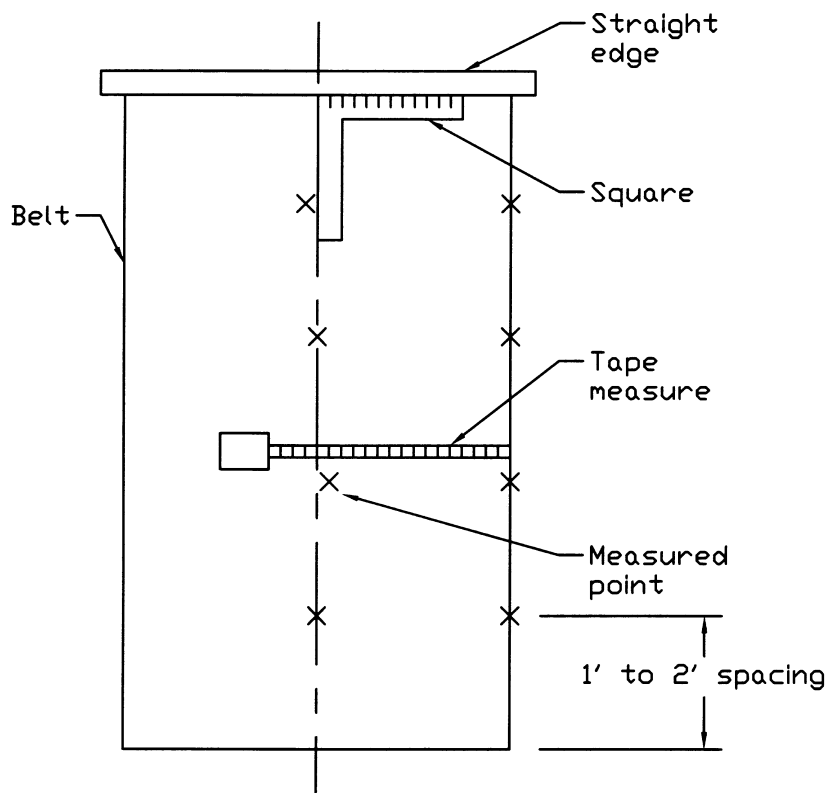

Fig. 1
1. At intervals of 1 to 2 feet, use a tape measure to mark a group of three to five points that are one half the belt's width from the same edge (Fig. 1). Create these groups at both ends of the belt and in one or more areas in the middle portion of the belt. The number of groupings will depend on the belt's length.